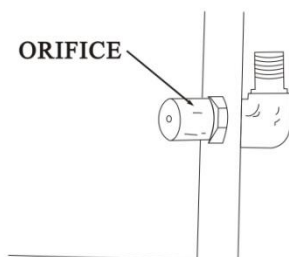
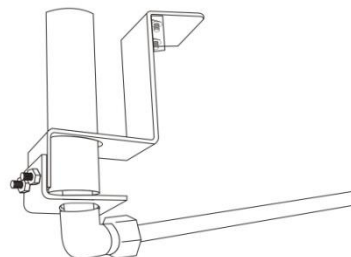

Figure 9
Figure 10
3. Replace the propane orifice (See Figure 9) with the natural gas orifice from the kit and reinstall the orifice holder by tightening the nuts as shown in Figure 10. Reconnect and tighten the gas tube to the orifice.